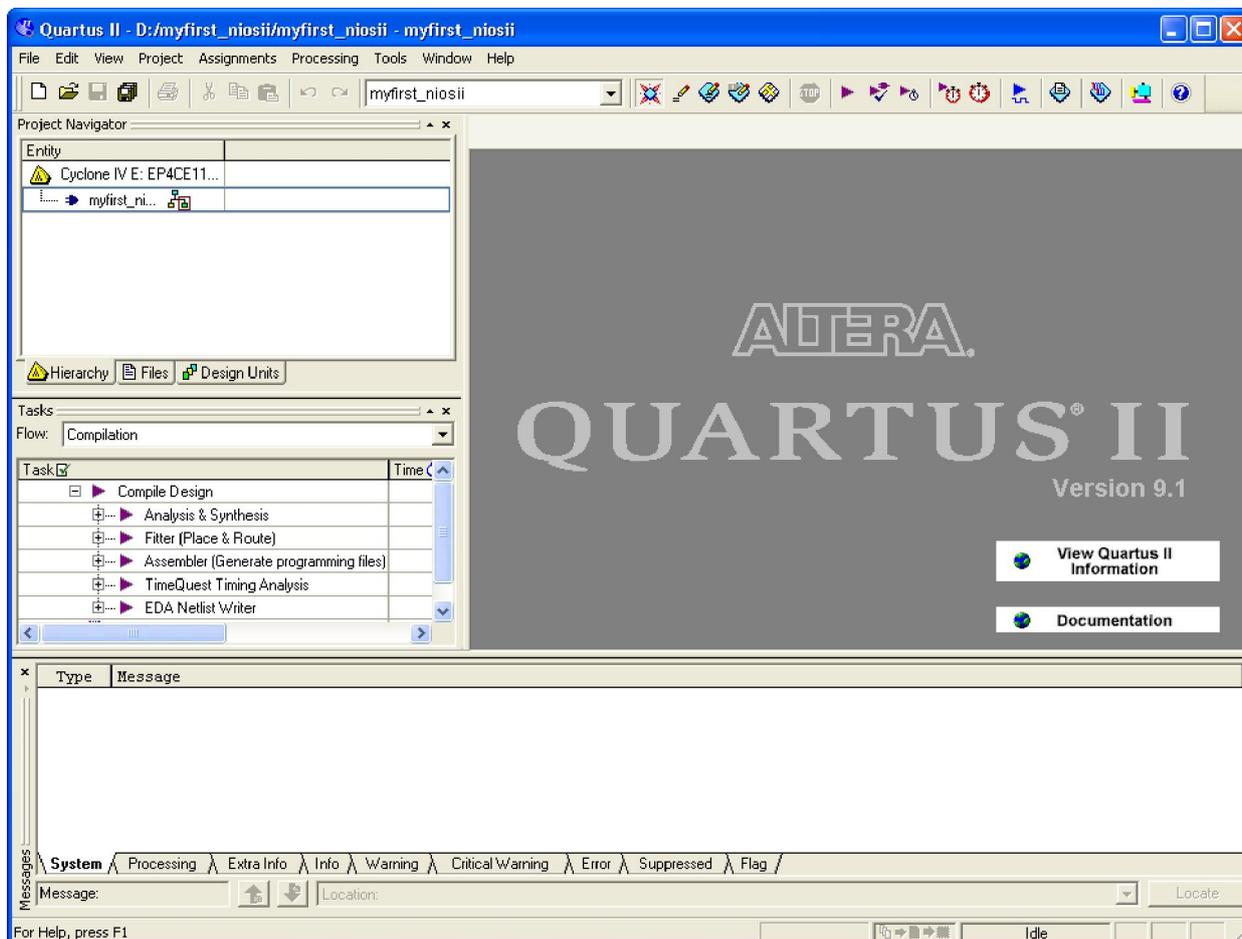

Figure 1-39 Exit SOPC
24. Click **Exit** to exit the SOPC Builder and return to the window as shown in Figure 1-39.